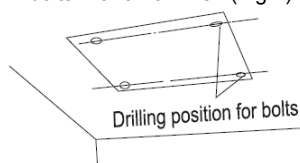

Fig.5
- (1). Using the installation template, drill holes for bolts (four holes). (Fig. 5)